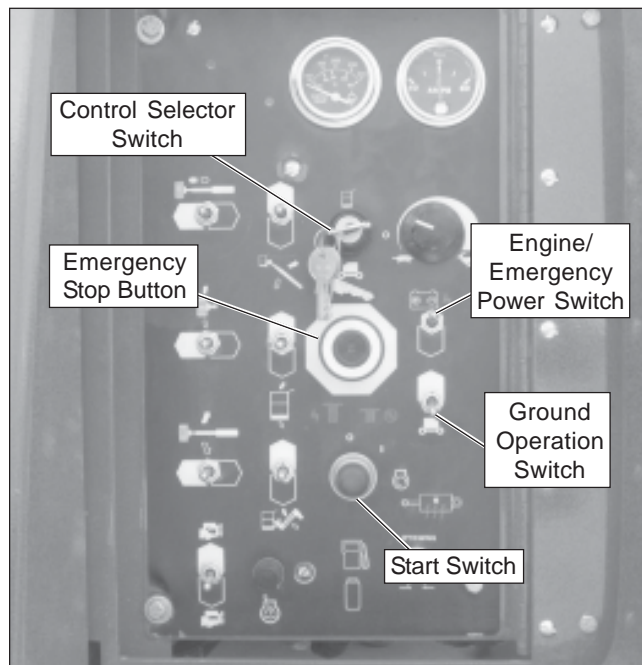

Figure 10.2 – Lower Controls
2. Place the key in the controls selector switch (refer to Figure 10.2) and turn the control switch to the lower controls position.